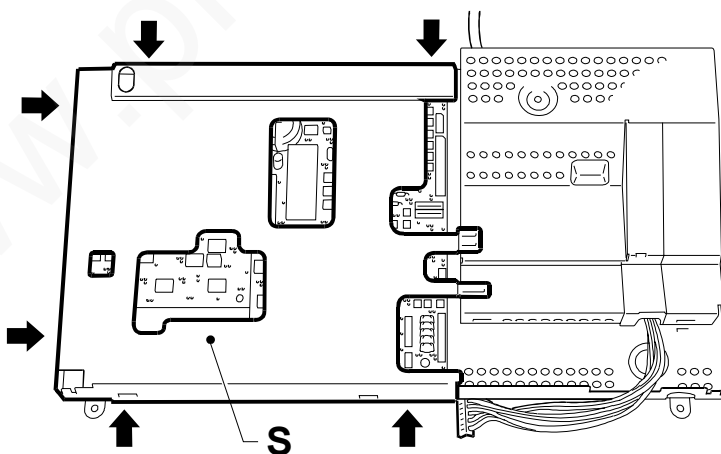

Fig. 7-16
- 2) Remove screen S releasing it in the points indicated by the arrows (Fig. 7-16):